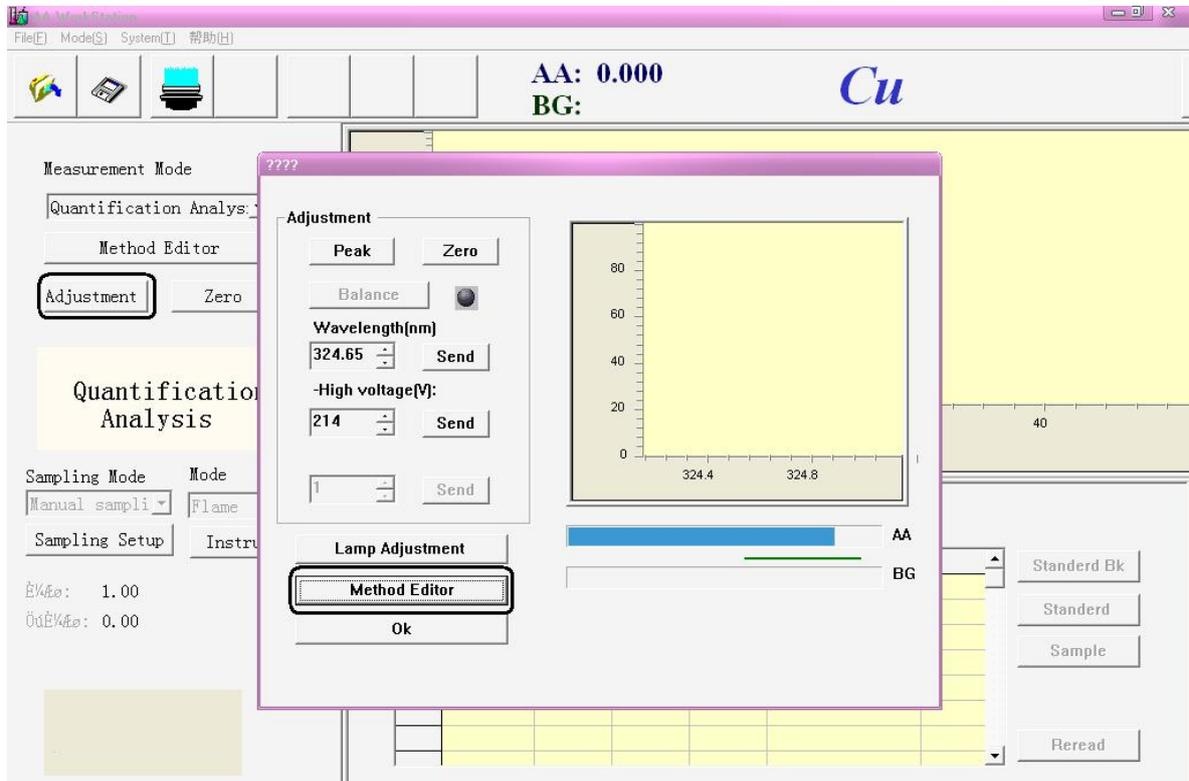

Figure 6-12
- 3.Press”Adjustment”button,as shown in the figure 6-12